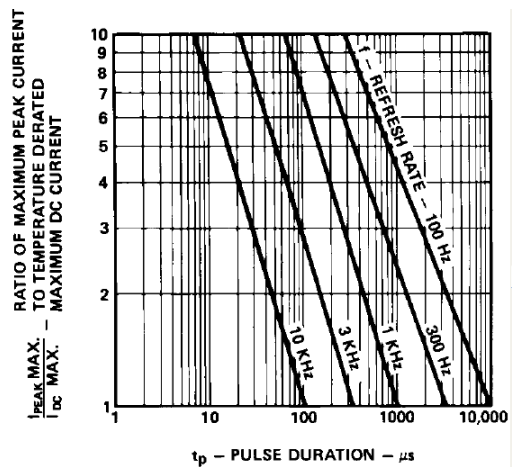

Figure 6. Maximum tolerable peak current vs. peak duration ($I_{\text{PEAK MAX.}}$ determined from temperature derated $I_{\text{DC MAX.}}$).
2. Refer to Figure 6 to establish pulsed operating conditions.